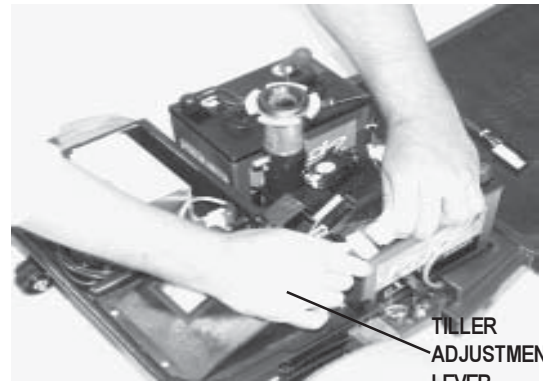

Figure 9. Tiller Angle Adjustment
1. Push down on the tiller adjustment lever. See figure 9.